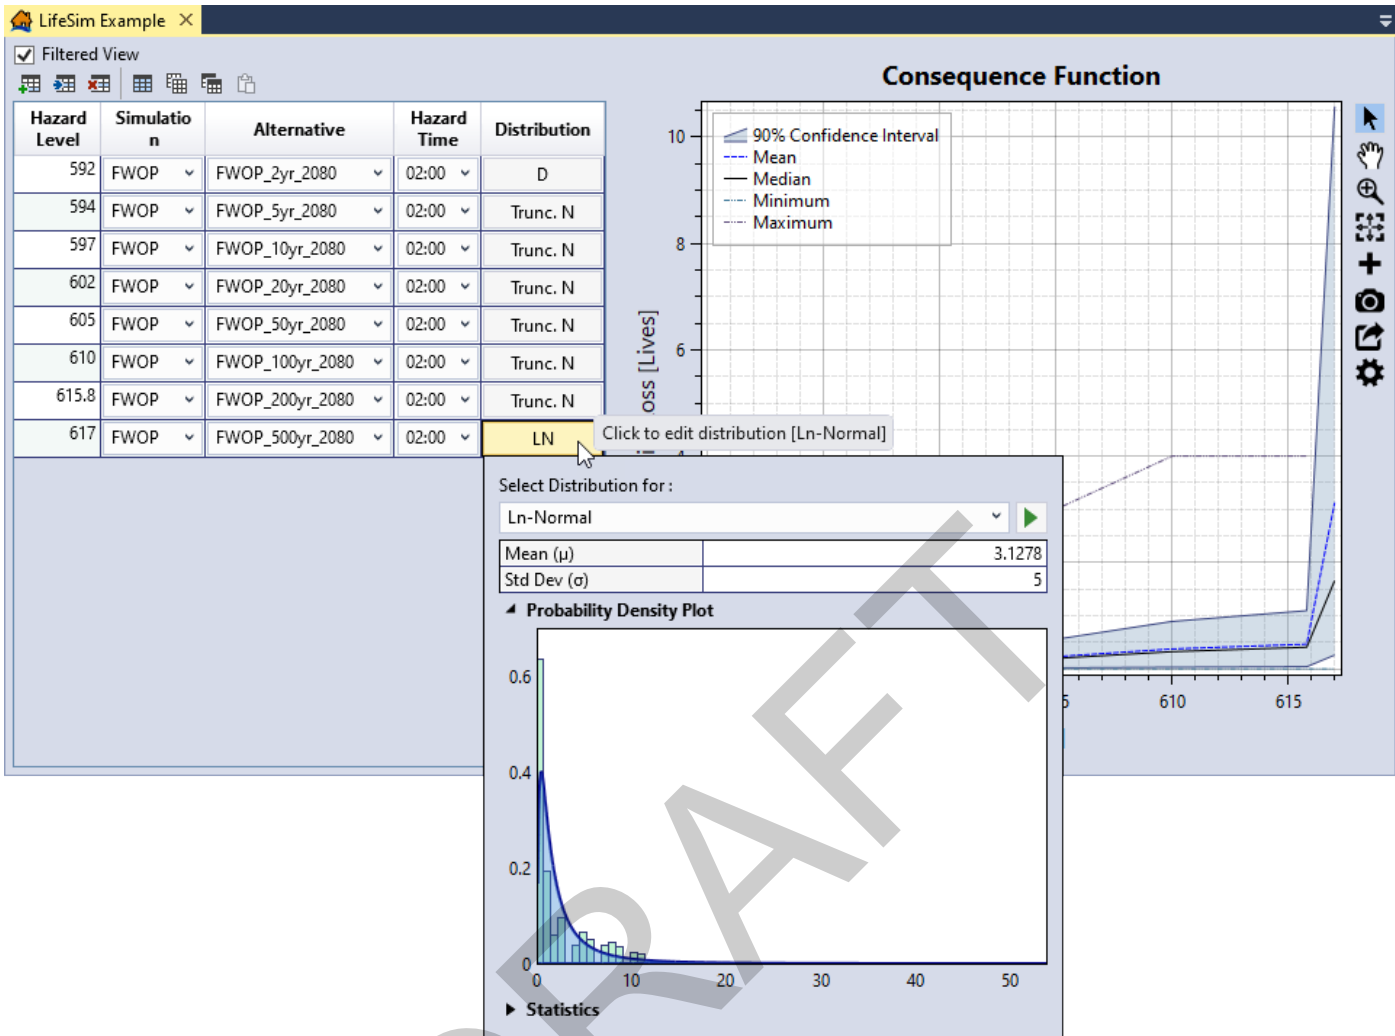

Figure 114 – LifeSim consequence function tabbed document.
The LifeSim consequence function is created in the **Tabbed Document**. The consequence function is defined by entering hazard levels (e.g., reservoir pool elevations or river flows) and LifeSim simulation results using the table on the left. A graphical representation of the function is displayed to the right of the table (Figure 114). There are three steps to entering each LifeSim result:
2. For each defined hazard level, select a LifeSim simulation result from the dropdown menu(s). The **Filtered View** checkbox can make it easier to navigate LifeSim results by filtering the cell contents to only contain results from the selected Simulations/Alternatives/Times of day. For example, in Figure 114 below the only options in the Alternative column are from the *FWOP* simulations and the available Hazard Time(s) are based on the selected Simulation-Alternative combination.